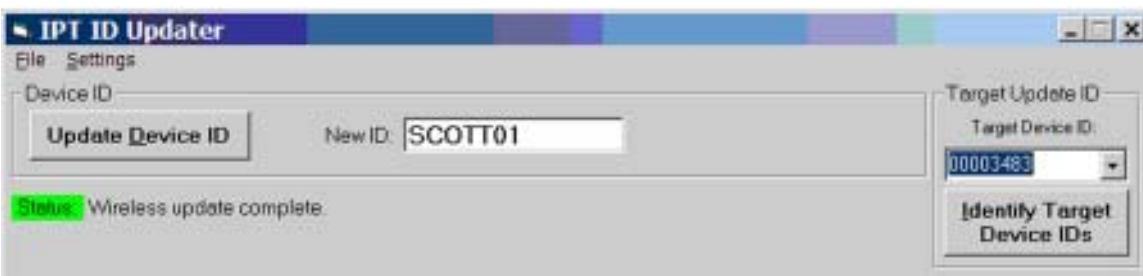

FIGURE 19
8. When the Update is successful, you will see the screen shown in FIGURE 19.